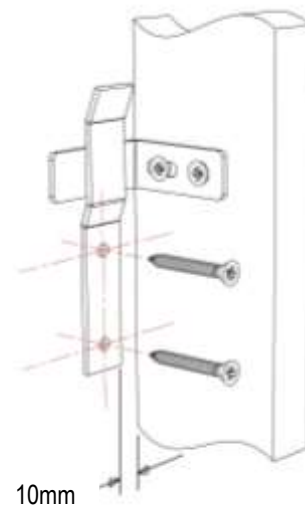

Figure 2
- With the mantel in position. Lightly scribe the wall in line with outer edges of the mantel. Lift the mantel away from the wall. Measure inwards from the previously scribed line the thickness of the mantel leg plus 10mm. See Fig.2.
- Fix the wall brackets (C) in place using the appropriate fixing dependent on the type of wall (Fixing are not supplied). Ensure mantel brackets (B) will fall halfway between the folds on the wall brackets (C). See Fig.2.
- Lift the mantel onto the wall brackets (C) and confirm it is securely held in place. If any adjustment is required take the mantel off the wall and adjust using the slots on the mantel brackets (C).